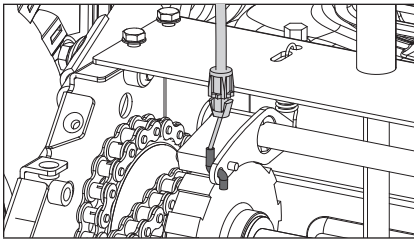

Figure 75
5. Unhook the connector. (Fig. 75)